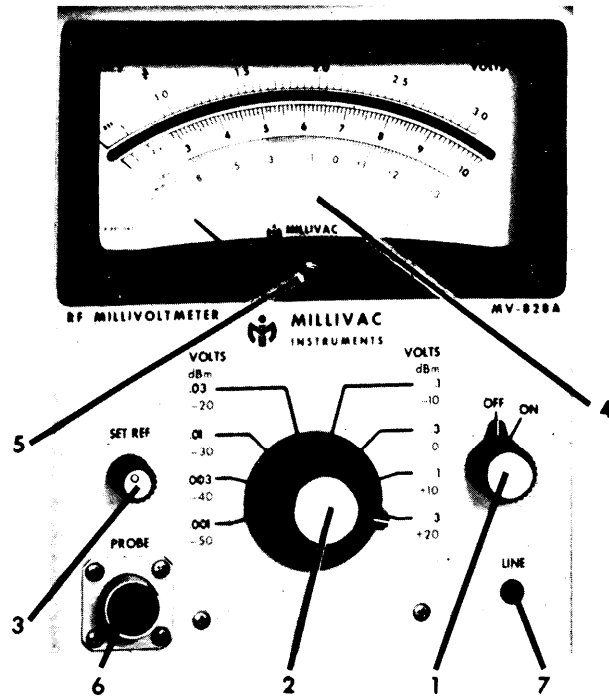
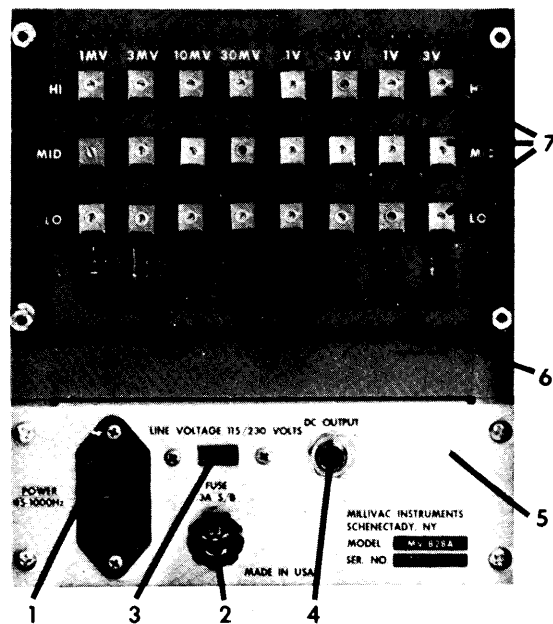

Figure 3-1. Front panel controls and indicators.
Figure 3-2. Rear panel controls.
This chapter should be read carefully before using the voltmeter. It contains information necessary for proper operation of the voltmeter. To achieve valid readings, proper switch settings are required. Controls, with the function of each, are listed in paragraph 3-4. The controls are shown in figures 3-1 and 3-2. Operating procedures are described in paragraph 3-5.
- a. Front panel (figure 3-1)
- (1) POWER Switch - a two position ON-OFF switch. Connects AC power to the voltmeter at the ON position.
- (2) RANGE Selector Switch - enables the selection of any one of the eight (8) RF voltage or dBm measuring ranges.
- (3) SET REF Adjust Control - is used to electrically zero the voltmeter, under no input signal conditions, to the meter's SET REF indication.
- (4) Meter - RF voltage measurements are read on the top two (2) meter's dial scales. All measurements should be read between 30% and 100% of full scale as the specified accuracies will apply only to those readings. The 1 and 2 marks on the second dial scale refer to 100 μ V and 200 μ V and apply only to the .001V full scale range. dBm measurements are read on the dBm (1mV, 50 ohm) dial scale.
- (5) Meter Mechanical Zero Adjust - provides mechanical zeroing of the meter pointer and is performed with the voltmeter de-energized.
- (6) RF Input PROBE Connector - a 9 pin Amphenol type which accepts the probe.
- (7) AC LINE Pilot Light - indicates AC power is applied to the voltmeter and is operational.
- b. Rear panel (figure 3-2)
- (1) POWER Connector - accepts the 3 wire grounded AC line power cord. Voltage and frequency requirements are marked on the serial/power plate.
- (2) FUSE Holder - contains a 0.3 amp "S1o-B1o" fuse. Always replace with the same type and manufacture as factory installed.
- (3) LINE VOLTAGE Selector Switch - slide switch for either 115V or 230V AC line operation and must be set to agree with the line voltage to be used.
- (4) DC OUTPUT Connector - phone type jack for obtaining a DC voltage which is directly proportional to the full scale reading of the meter. DC output 3 circuit phone plug furnished. Impedance load of 2K Ω (1.98K Ω to 2.02K Ω) is required.
- (5) Serial/Power Plate.
- (6) Calibration Controls Board.
- (7) Calibration Adjust Controls - provides individual range linearization correction adjustments.